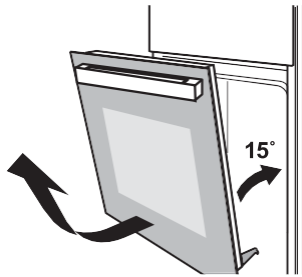

Fig.1
4. Open the oven door. Open the hinge cover of the oven door to the maximum position (see figure 1)